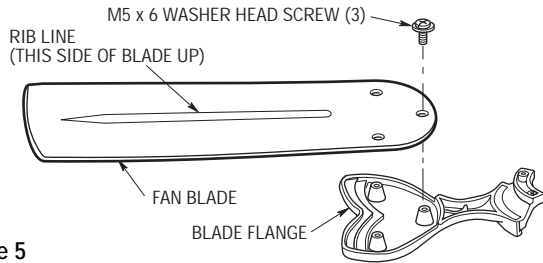

Figure 5
7. Mount blade flanges to fan blades (rib line facing up) using three M5 x 6 washer head screws (Figure 5).